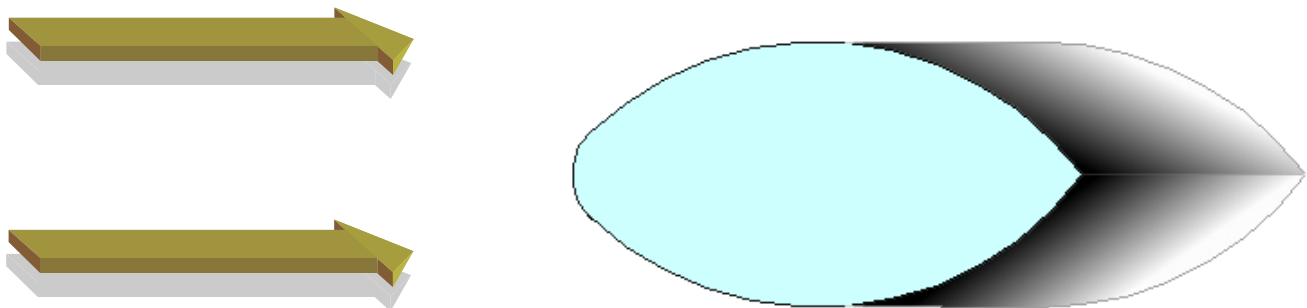
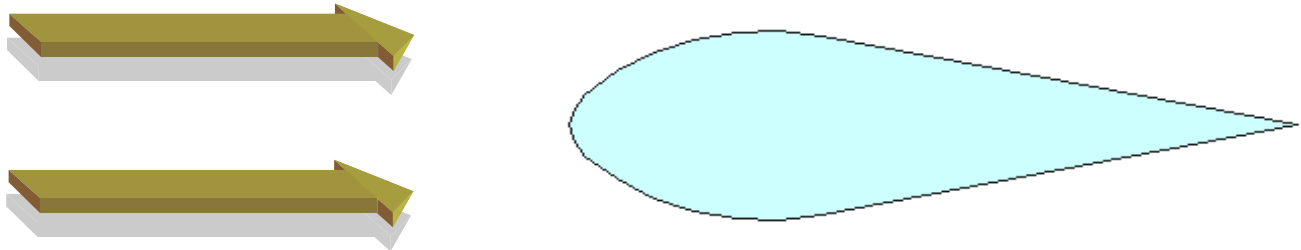

Figure 3a
Figure 4
As the wind speed increases the resistance and drag increase. At some arbitrary wind speed we reach the condition shown in figure 3a. The resistance is not shown. We know it's there, but our shape has minimized it as best we can.
Taking figure 3a and stretching the back half equally along the centerline to a point where the resistance in front and the drag in the rear are balanced, for a given wind speed, we recognize a common shape in figure 4, the teardrop. Recent studies using high speed film have shown this to be the approximate shape used by the Peregrine Falcon to achieve dive speeds in excess of 200 mph.
Removing the bottom half from figure 4 along the centerline and rounding the nose (LE), we have the basic airfoil.